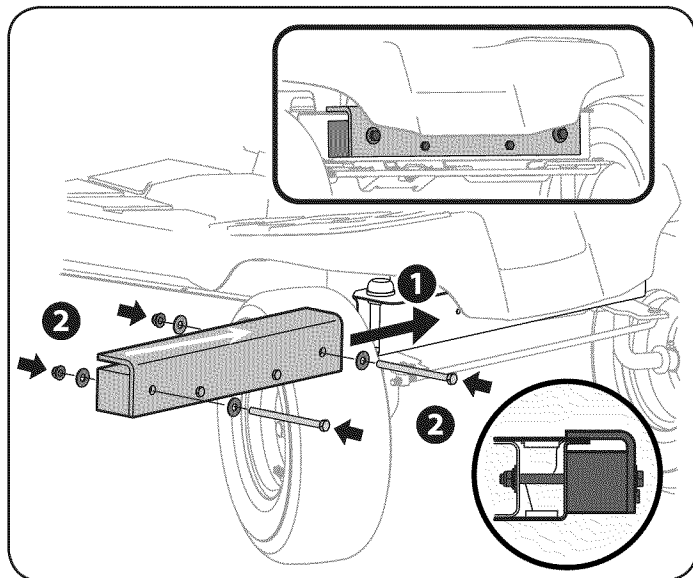

Figure 9
2. Turn the wheels of the tractor all the way to the right hand side, from the operator's position, as shown in Fig. 9.